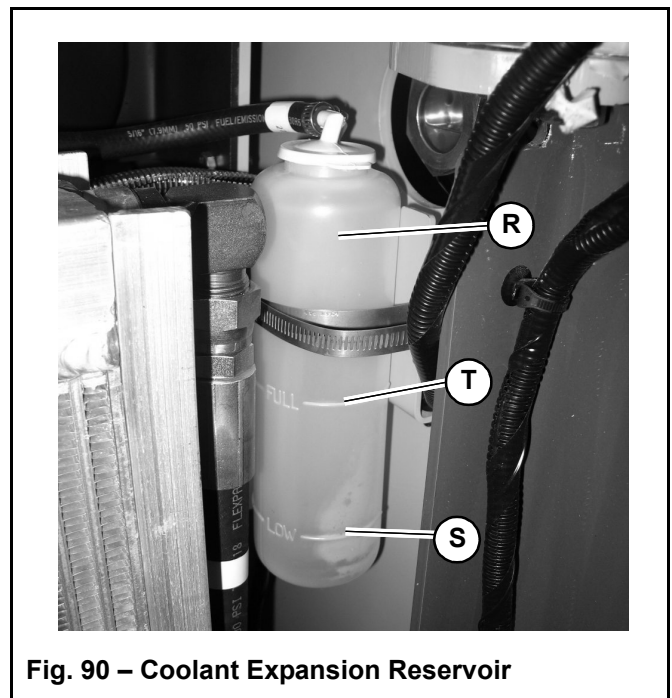

Fig. 90 – Coolant Expansion Reservoir
5. Check the coolant level in the expansion reservoir (R, Fig. 90). Coolant level must be between the “FULL” (T) and “ADD” (S) marks on the expansion reservoir. Add coolant to the expansion reservoir as required.